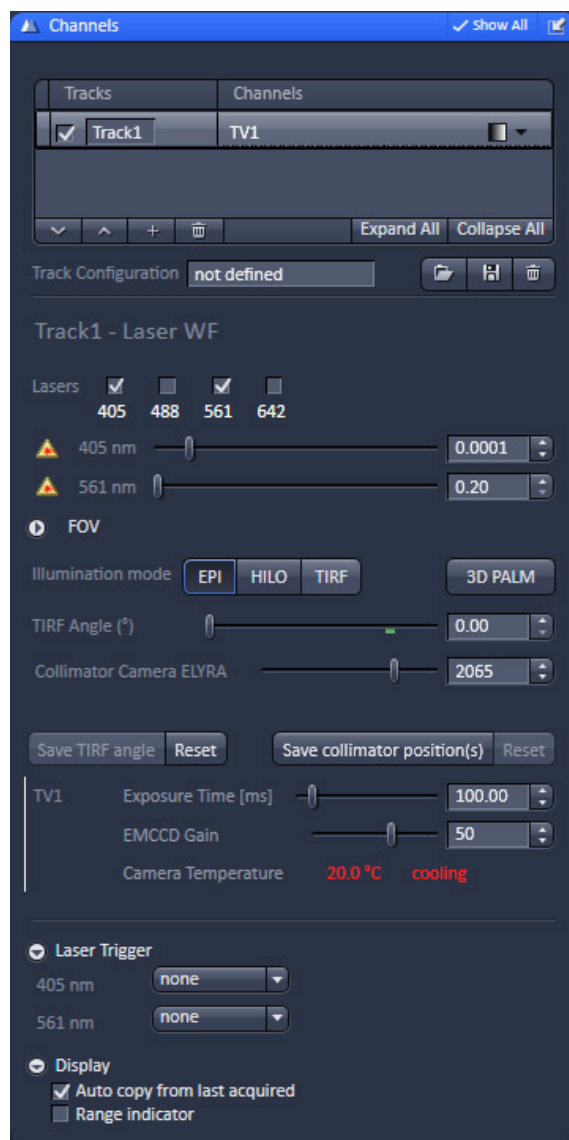

Fig. 45 Channels tool for PALM with a single track
- Select the **Channels** tab from the Acquisition parameter tool group (Fig. 45).